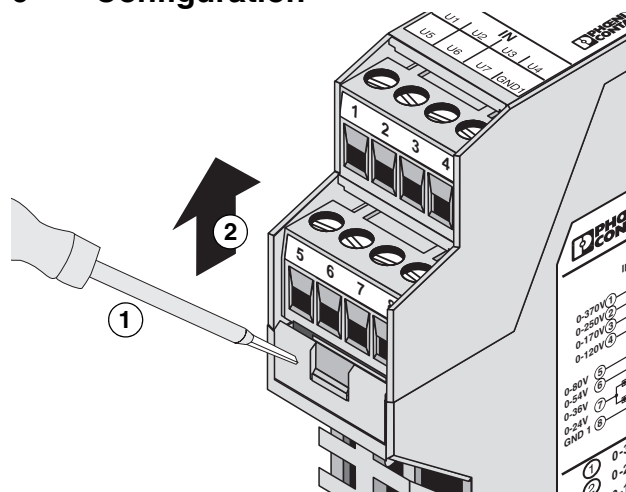

Figure 4 Opening the housing
- Using a screwdriver, release the locked upper part of the housing on both sides ①. The upper part of the housing and the electronics can now be pulled out approximately 3 cm ② (see Figure 4 on page 6).